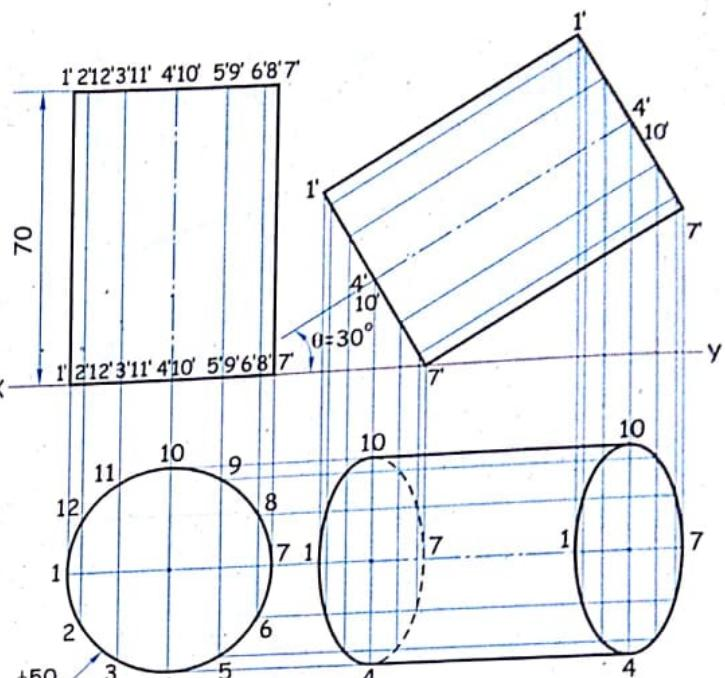

FIG. 10.84
**Solution :** Refer figure 10.84.